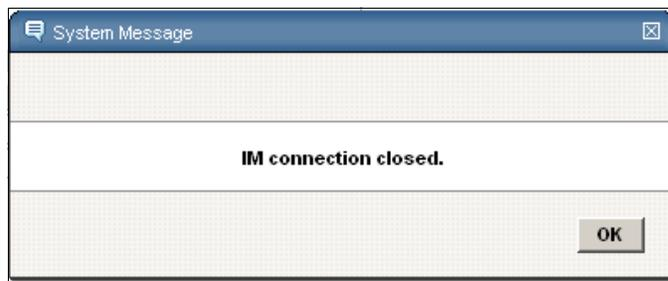

Figure 7-17 Connection closed
9. Figure 7-17 shows the closed connection.